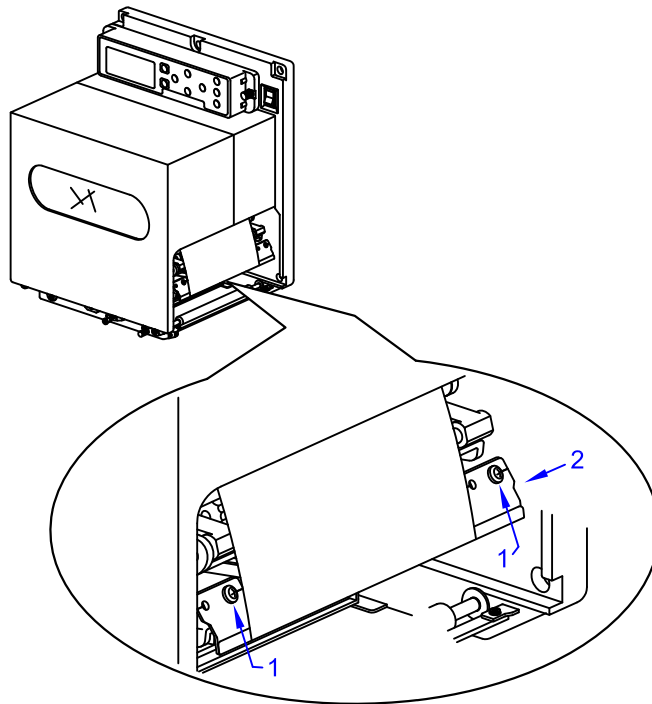

Figure 6-12, Ribbon Guide Alignment
3. Loosen one of the two set screws (1, Figure 6-12) and move the free end of ribbon guide (2) upward or downward as necessary until the ribbon appears to unwrinkle.
4. Retighten loose set screw (1) while holding ribbon guide (2) in place.